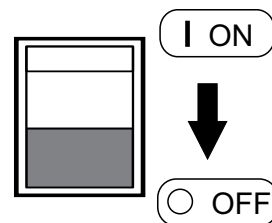

Figure 23. Idle Control Switch (OFF)
8. Place idle control switch (Figure 23) in the **OFF** position. This will allow the engine speed to run at about 3600 RPM's (*high speed*).
Placing the idle control switch in the **OFF** position (Figure 23) allows the engine to operate at a maximum speed of about 3600 RPM's.